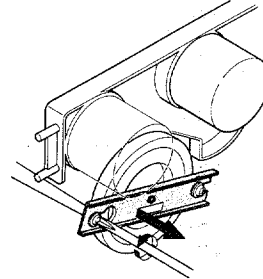

Fig. 5
- 1) Loosen the screws and then slide the support plate in the direction of the arrow (See Figure 5.)